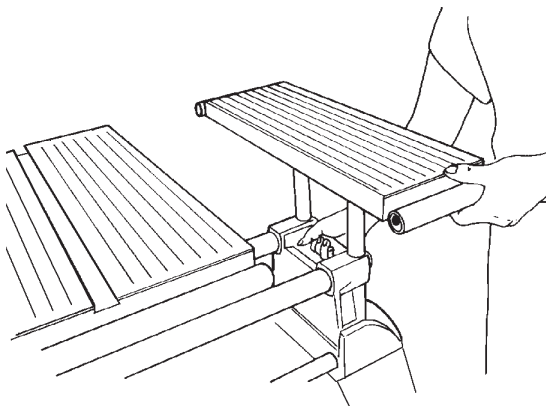

Figure C-55
69. Mount the extension table in the Mark 7's accessory base mount (on the right side) at a comfortable height, as shown in Figure C-55. Use a 1/2" wrench to loosen the bottom nuts holding the table base to the table approximately 1/4" from the table. This will allow you room for later adjustment.